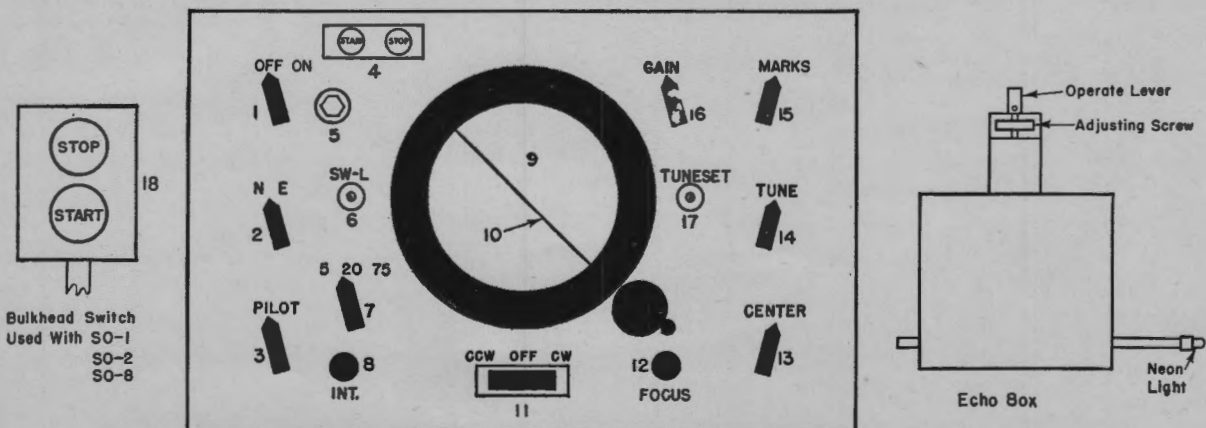

Figure 4 SO-1. Plan position Indicator unit.
1. Put the operate lever in a horizontal position. (See illustration of echo box, fig. 4 SO-1.)